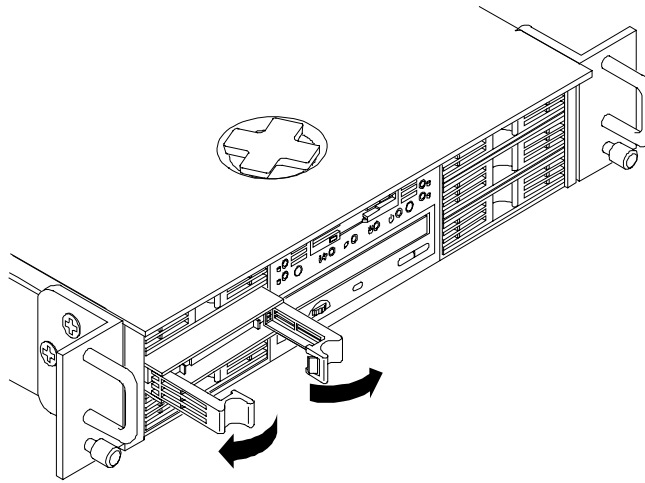

Figure 3-5. Opening Drive Ejector Arms
1. To unlock the drive, insert your thumb into the opening at the center of the drive and pull the ejector arms outward until they click into the open position. See Figure 3-5.